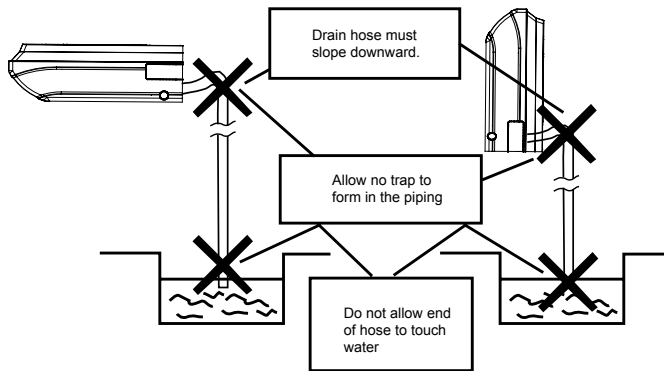

Fig.23
- (1). Keep piping as short as possible and slope it downwards at a gradient of at least 1/100 so that air may not remain trapped inside the pipe.
- (2). Keep pipe size equal to or greater than that of the connecting pipe.
- (3). Install the drain piping as shown and take measures against condensation. Improperly rigged piping could lead to leaks and eventually wet furniture and belongings.
- (4) Connect the drain hose.(Fig.23)